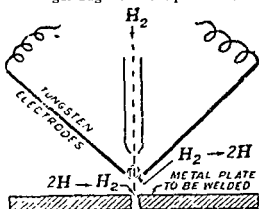

Fig. 28'9—Atomic hydrogen torch.
(2) As a fuel hydrogen is an important gaseous fuel. Fuel gases, e.g., coal gas, water gas, oil gas contain hydrogen as an important constituent. It is used in oxy-hydrogen torch (Fig. 28'10) used for welding purposes. It is also used in the atomic hydrogen torch.